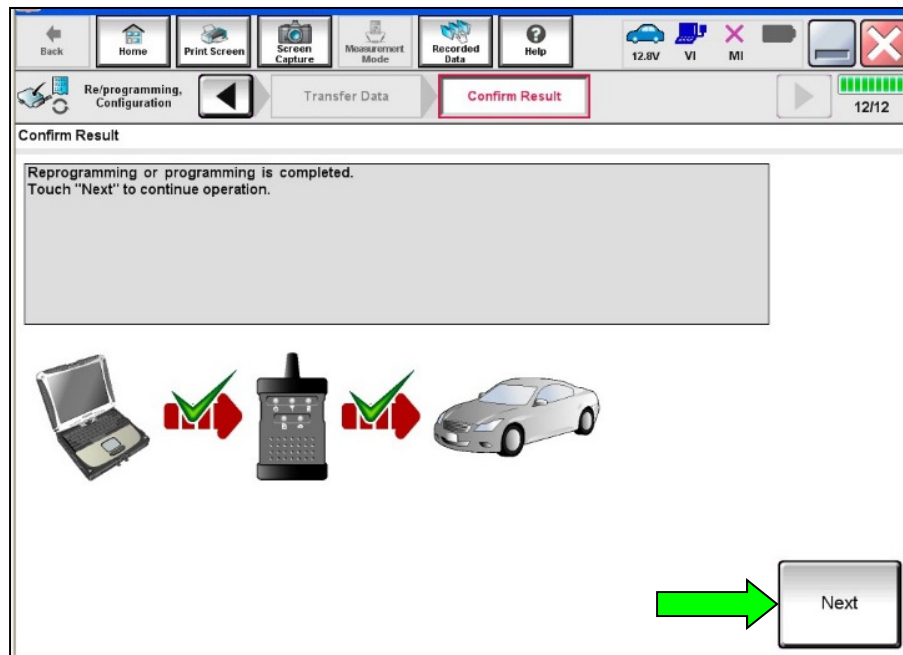

Figure 18
27. When the screen in Figure 18 displays, select **Next**.